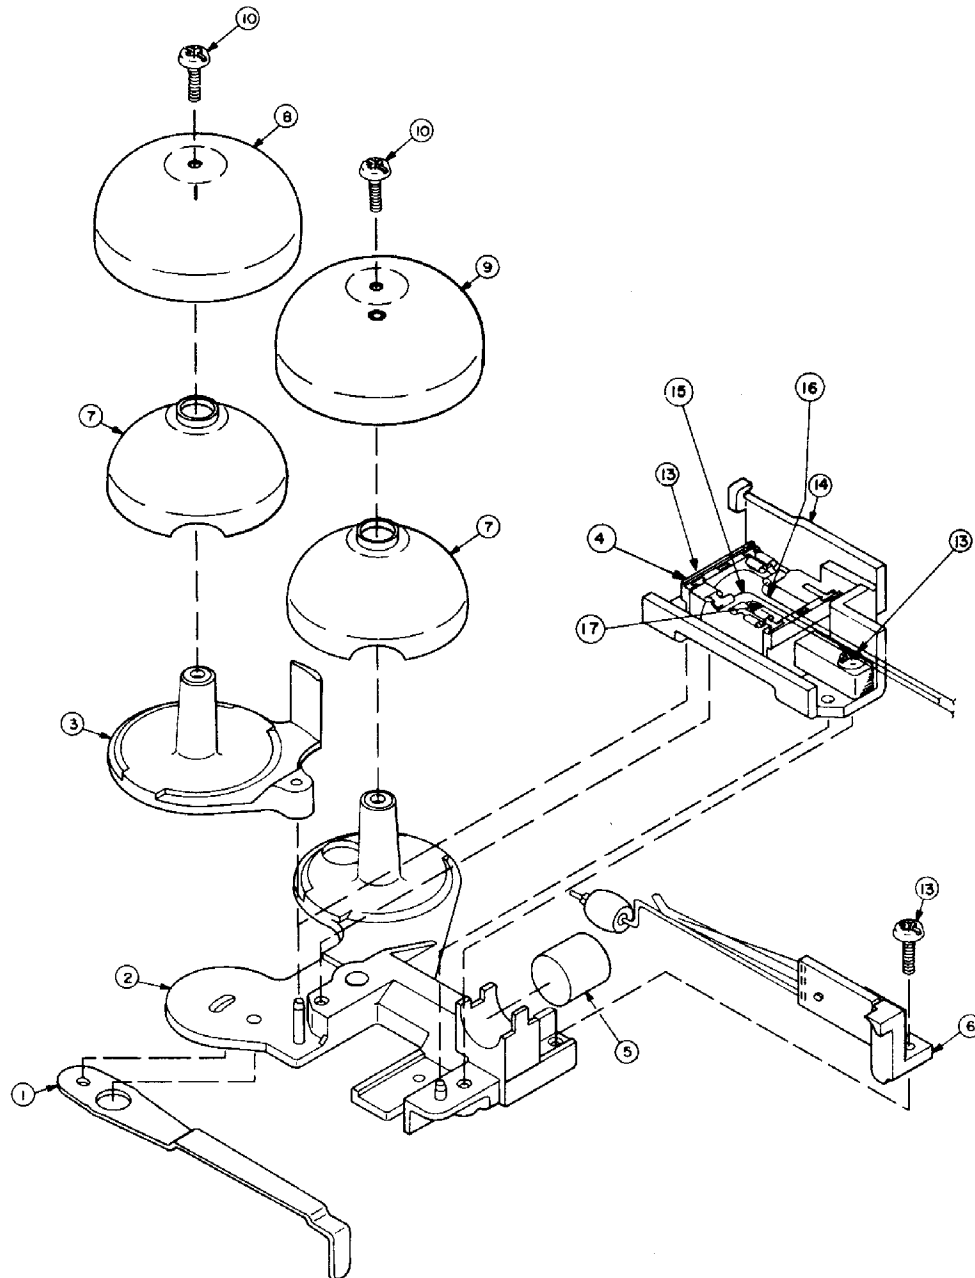

Figure 8. Type 48 Straight-Line Ringer.
10.01 The Type 48 ringer (Figure 8) is a single-magnet, single-coil, double-gong, straight-line ringer and replaces the Type 45 ringer in its straight-line or superimposed
10.02 To disassemble the Type 48 Ringer, refer to Figure 8 and proceed as follows:
- Remove the mounting screw (item 13) from the armature and clapper assembly (item 6). Make sure the bias spring is free from the pole piece notch before removing the armature and clapper assembly.
- Remove the magnet (item 5) from its mounting cradle.
- Remove the mounting screws (item 13) from the coil and pole piece assembly (item 4) and lift it upward to free it from the mounting base (item 2).
- To remove the right-hand (bias adjuster side) gong (item 9) and resonator (item 7) from their gong base, remove the mounting screw (item 10) and lift the gong and resonator upward to free them.
- To remove the gong (item 8), resonator (item 7), and gong base (item 3), remove the mounting screw (item 10) and lift upward on the gong base to remove these components from the ringer assembly.
10.03 To assemble the Type 48 Ringer, refer to Figure 8, and proceed as follows:
- Align the coil and pole-piece assembly (item 4) over the post to the left of the magnet and insert and fasten the mounting screws (item 13).
- Place the magnet (item 15) into its mounting cradle.